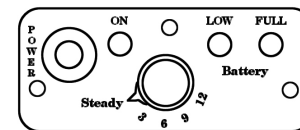

Figure 7: Cooling Unit Face Plate
2. Turn the unit on by pressing the round POWER button on the left side of the Control Unit Face Plate (Fig. 7).